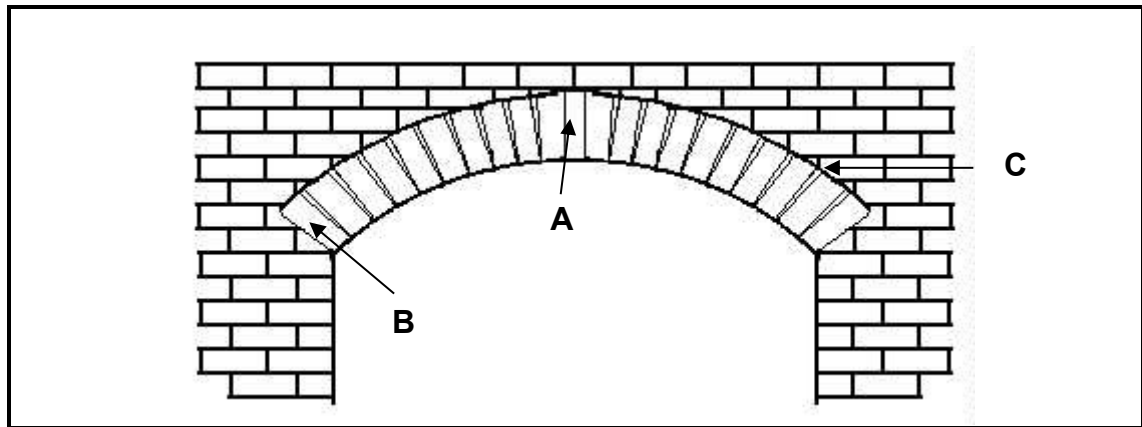

FIGURE 5.9
5.9 Answer the following questions on the arch structure in FIGURE 5.9.